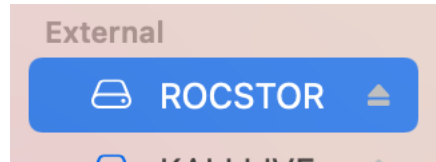

Figure 5.0
5. On the left side of the “**Disk Utility**” menu is a list of available drives (figure 1.3.) One will show as Rocstor drive. Click on the Rocstor icon (figure 5.0.)